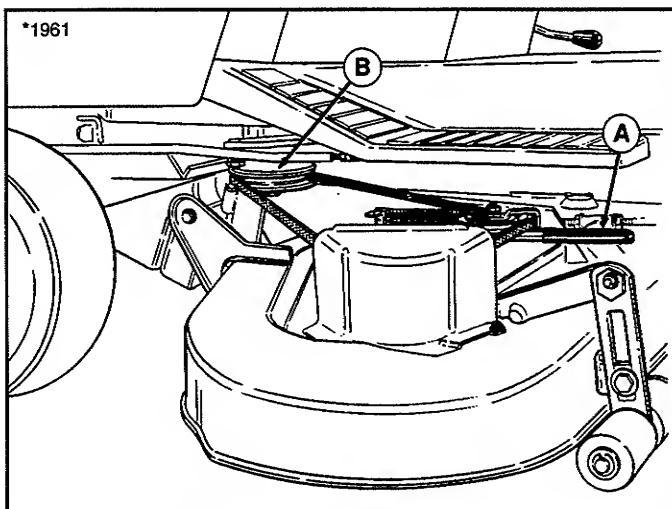

Figure 9. Installing Belt
5. See figure 9. From left side of tractor, pull idler arm (A) towards you to relieve belt tension. Install belt onto the PTO pulley (B).
6. Turn wheels straight ahead. Pull back on spring-loaded idler arm (A, figure 9) and lift mower.hitch off of the tractor brackets.